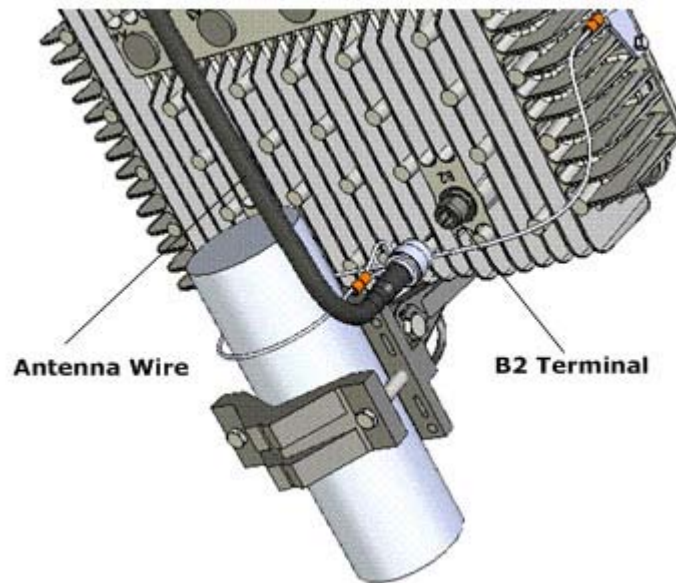

Figure 9: Antenna Wire
3. Attach the bracket to the pole. For poles 3" diameter or less use the supplied hose clamps [C]. For larger poles use appropriate hose clamps (not supplied with mounting kit). See Figure 9.